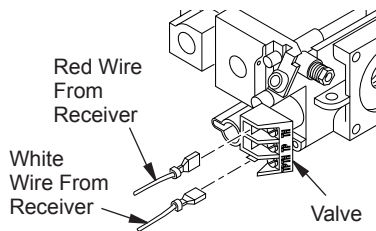

Figure 3 - Connecting Wires
5. Connect wires as shown in Figure 3.